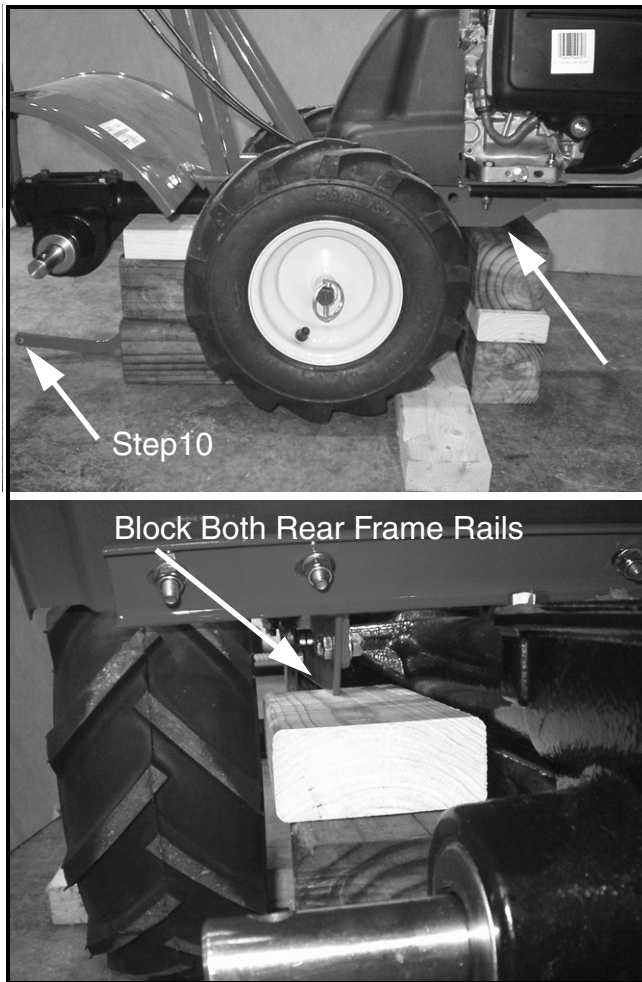

FIGURE 3
6. Tag the two tine assemblies, Right Side and Left Side, as to the side of the tiller they are mounted on. Remember - Left (LH) and Right (RH) sides are determined from the operator's position behind the handle bars and facing the tiller engine. This will assist when reassembling the tiller.
9. Place sufficient, approximately 9" high, wood blocking under the forward part of the frame. With the help of an assistant, tip the tiller forward to rest the front of the frame on the blocking thereby raising the wheels off the ground. Position additional wood blocking at the rear on each frame rail between the transmission housing and wheel. See Figure 3.